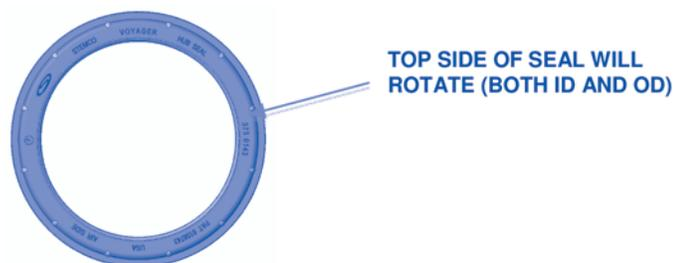

Figure 1
** The top portion of the seal (as shown in the Figure 1) will rotate after the seal has been installed in the hub. Once the hub is installed over the spindle the seal ID will grab onto the spindle to correctly position the seal and allow the seal to work properly.*